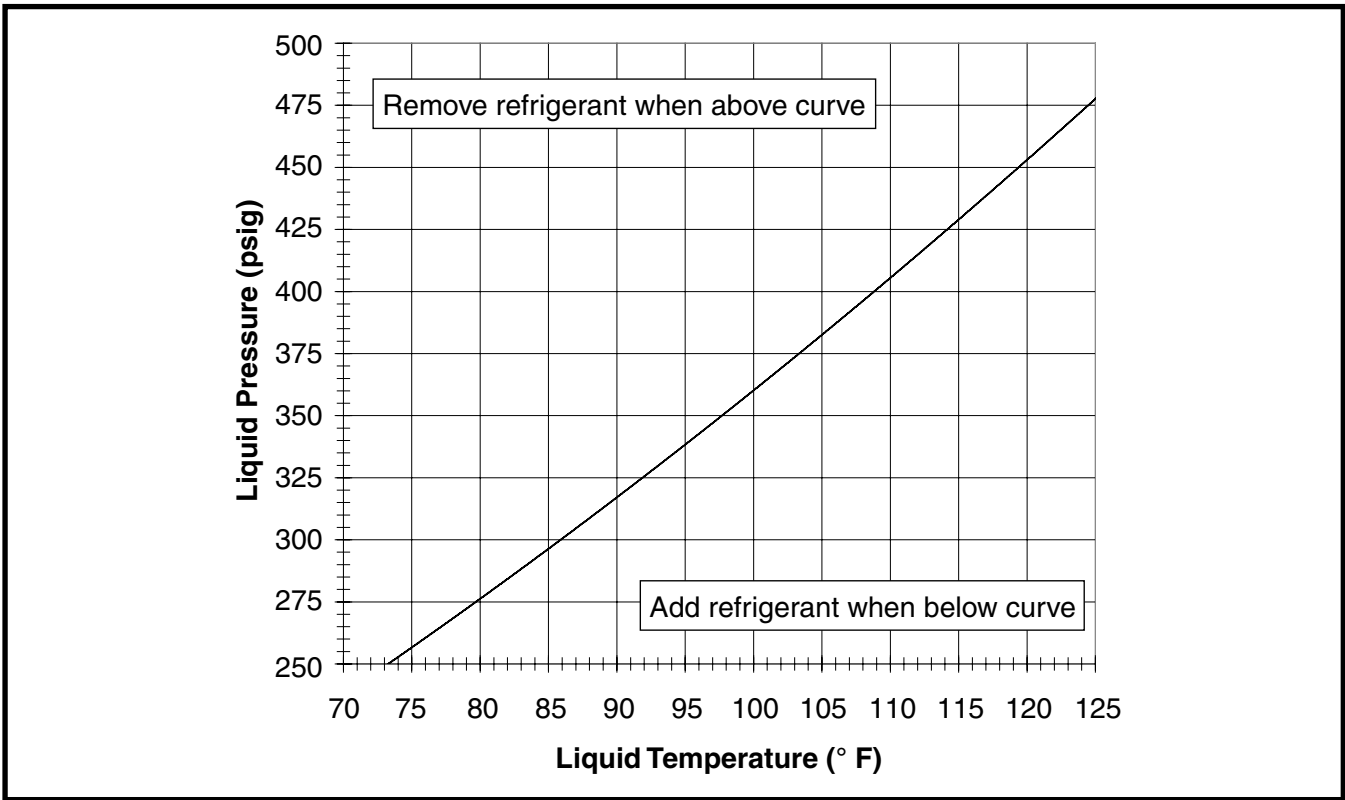

Figure 6. Charging Chart for 5 Ton Units
- The Refrigerant Charging Charts (Figures 6 - 10, pages 13 - 15) are applicable to listed assemblies of equipment and at listed airflows for the indoor coil. Assemblies of indoor coils and outdoor units not listed are not recommended. To properly charge these units:
- Refrigerant charging charts are applicable only to matched assemblies and listed airflows for the indoor coil. Refer to Figures 6 - 9 (pages 13 - 14) and Table 2 for correct system charge.